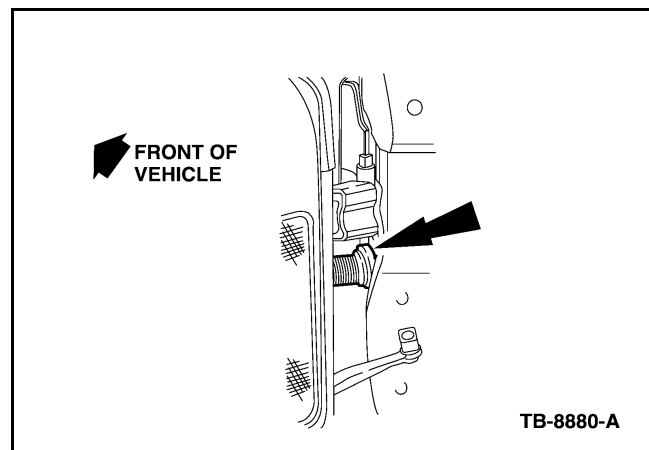

Figure 4 - Article 07-14-6
- a. To ensure proper sealing around the wiring harness grommet, apply a small amount of TA-2 Motorcraft® Repair Urethane Adhesive/Seam Sealer and reinstall the grommet into the A-pillar. (Figure 4)